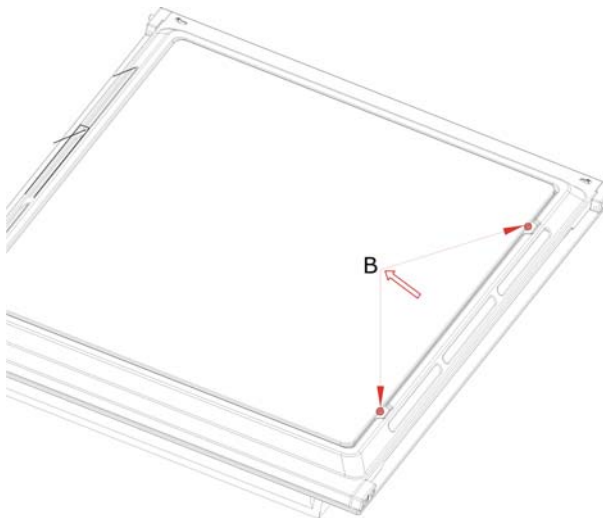

Fig.12-3
- b) put the oven door on a flat surface, use a flatten objects, such as coins, to levering the glass at the position B.(fig.12-3)